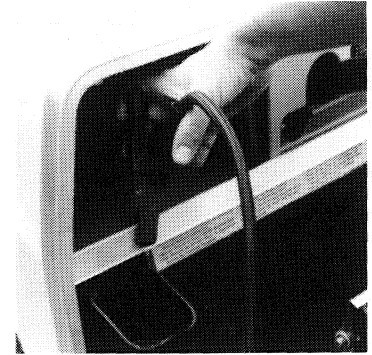

Figure 16
Never connect to the negative post of the "Dead" battery, connect to frame (See Figure 16).
4. Connect other end of black jumper cable to stalled car frame away from gasoline and battery as in Figure 16.